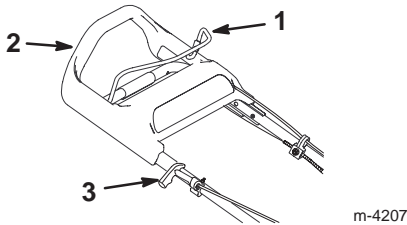

Figure 12
The starter handle and the blade control bail are on the upper handle as shown in Figure 12.
- **Manual Starting**—Pull the starter handle lightly until you feel resistance, then pull it sharply (Fig. 12). Allow the rope to return to the handle slowly.